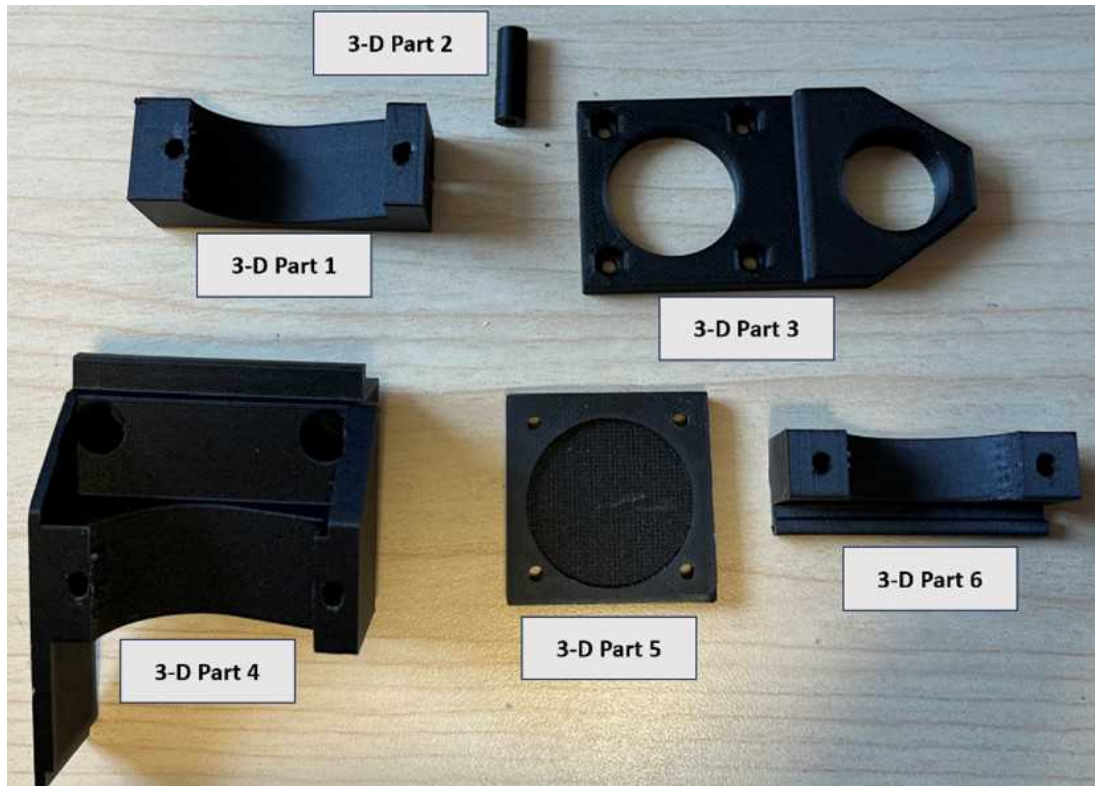
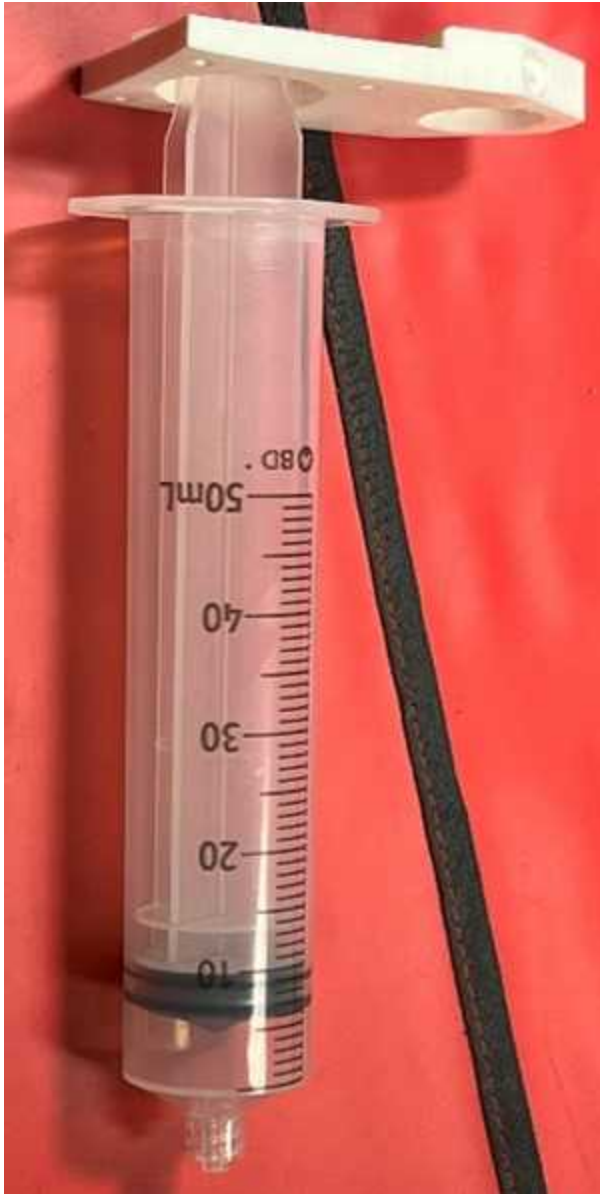

Figure 10. 3-D printed parts for the syringe installation on the actuator
Figure 11. Syringe plunger with 3-D printed part 3 attached.
- 14.2 Slide 3-D print part #3 (Figures 10, 11) onto the plunger with the ledge facing towards the plunger flange.
- 14.4 Attach 3-D printed part #5 (Figure 10) onto the plunger flange (Figures 11, 12). Ensure the circular flange fits into part #5.